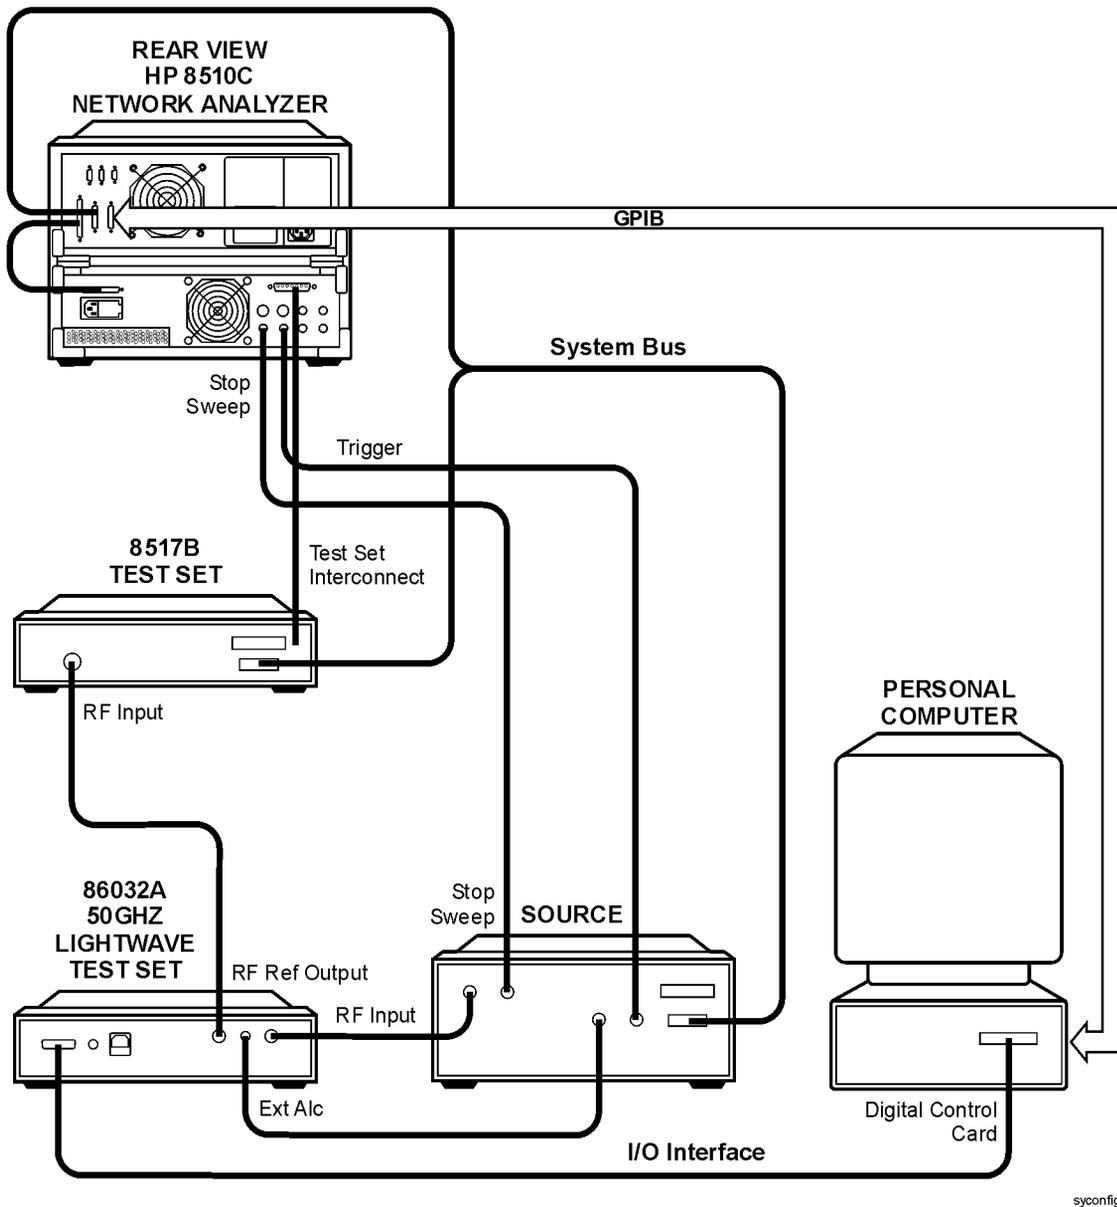

Figure 1-2. Agilent 86030A Cabling Configuration
- 2 Confirm the cabling of the Agilent/HP 86030A system. Refer to Figure 1-2.